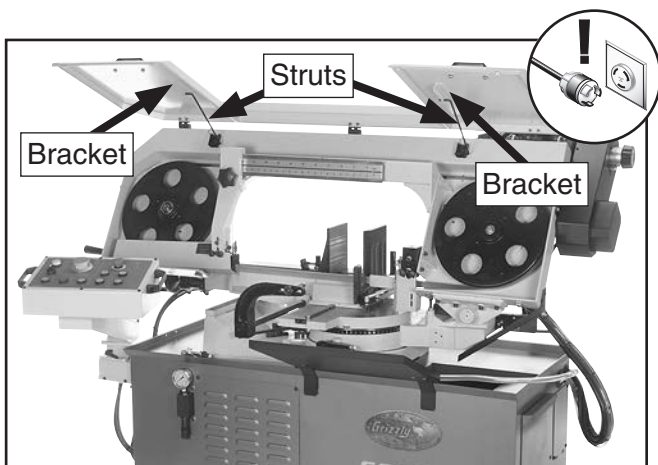

Figure 25. Wheel cover secured in "up" position.
3. Open wheel access cover and secure in "up" position so struts lock into end of grooves on brackets shown in **Figure 25**.